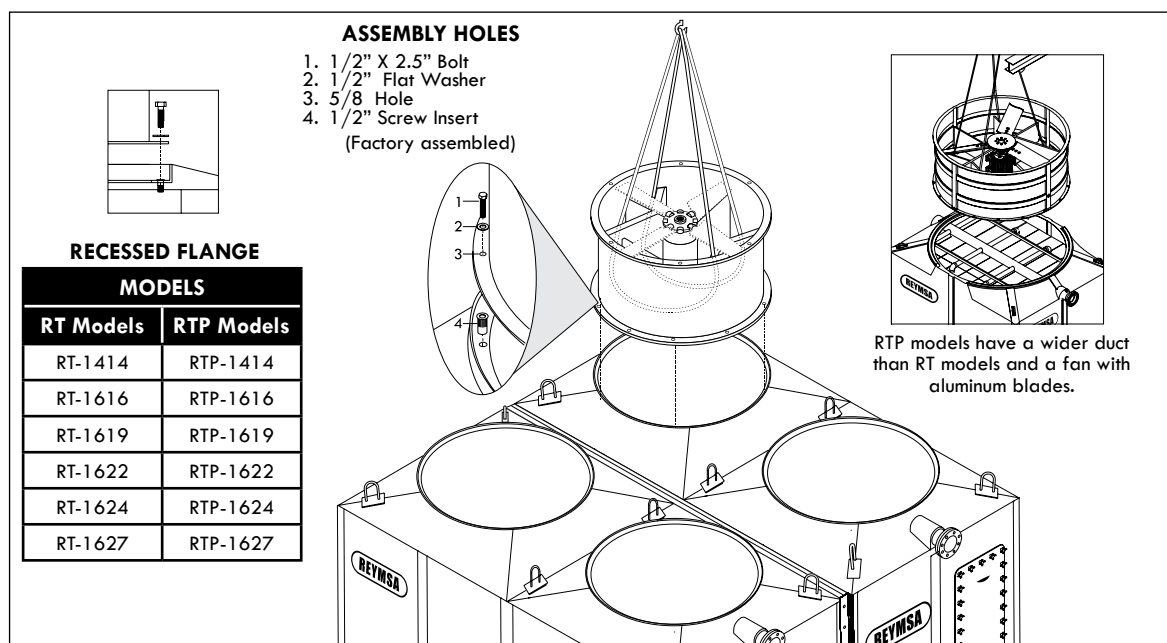

Figure A-32: Fan Duct installation for a Four Fan Tower
- Q.** Then cradle/straddle the fan support with the straps (as shown in Figure A-32) so you can lift the fan duct with a crane and assemble it.
- R.** Identify each fan duct, they are labeled with a number on the inside of the lower edge. For a correct installation, this number must match the number on the distribution manifold of the corresponding body section. Place fan duct 1 on the corresponding receiving flange on top of body section 1 of the Tower; make sure the bolt holes and the marks inside the fan duct and receiving flange are aligned (Figure A-32 and A-33). Secure it with the stainless steel nut and bolt sets supplied by REYMSA.